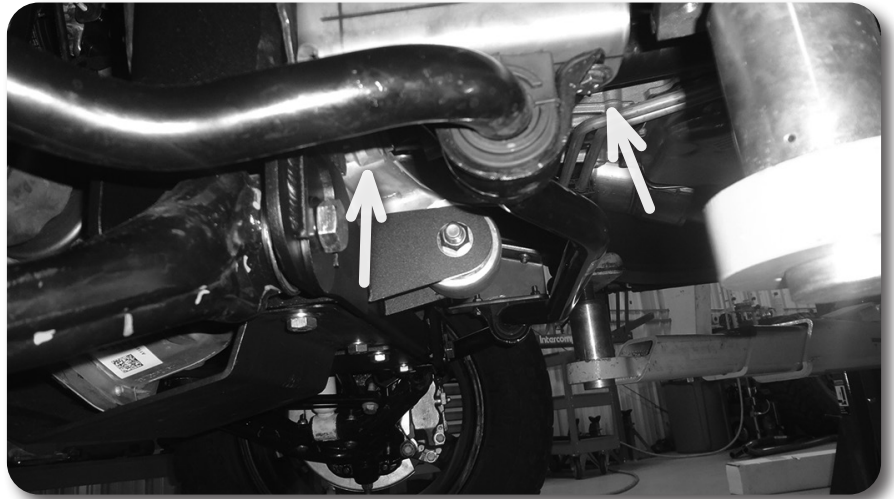

Figure 47
71. Attach the front sway bar to the sway bar drop bracket with the provided 3/8" bolts, prevailing torque nuts, and washers Fig. 47. Attach the sway bar link to the